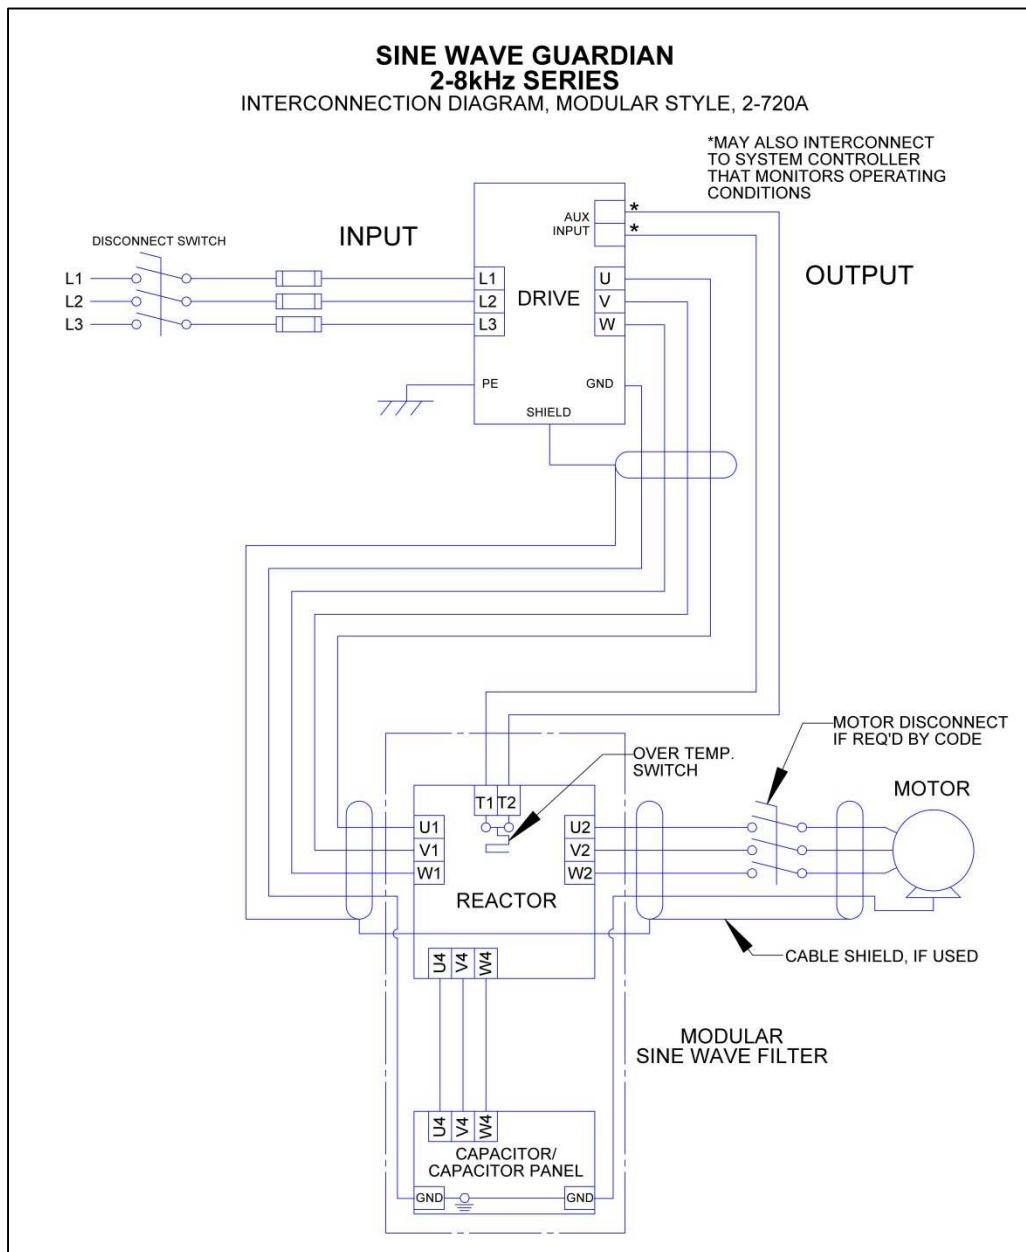
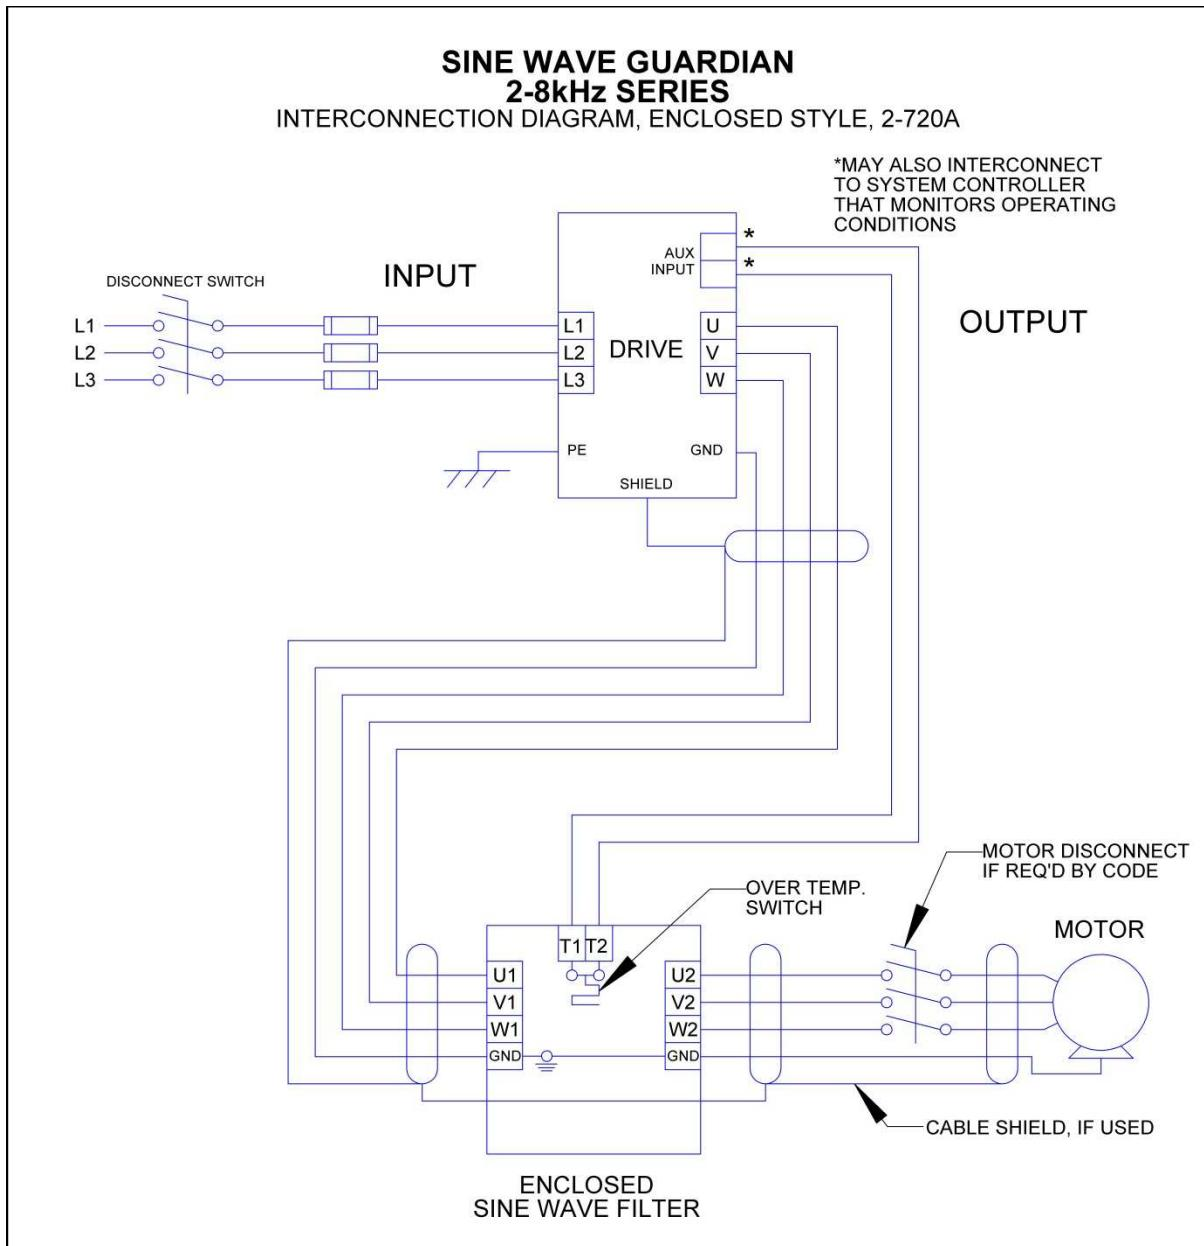

Figure 6-1: Modular Interconnection
Figure 6-2: Enclosed Interconnection
- For modular filters interconnection between the filter, motor and the drive is shown in Figure 6-1 (p18).
- For filters supplied in general purpose NEMA1/2 and 3R cabinets, interconnection between the filter, motor and the drive is shown in Figure 6-2 (p19).
To aid in troubleshooting, two interconnection diagrams, Modular Unit Interconnection Diagram Figure 6-1 (p18) and Enclosed Unit Interconnection Diagram Figure 6-2 (p19) are included, and this table below list potential problems and solutions.